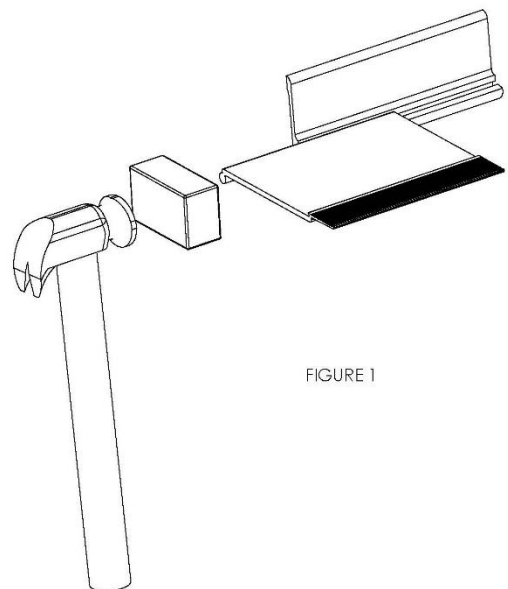

FIGURE 1
1. Cut and fit expansion joints to required length, if installing more than one piece lay out entire run to insure proper alignment. The cover plates will need to be assembled. This is done by applying a lubricant to the half round protuberance on the male cover plate and sliding it into the round channel on the female cover plate. The cover plates may need to be forced together by pounding the plate from the end using a rubber mallet and a block of wood. **Figure 1**
1. Cut and fit expansion joints to required length, if installing more than one piece, lay out entire run to insure proper alignment. The floor plate will need to be assembled with the wall plate. This is done by applying a lubricant to the half round protuberance on the floor plate and sliding it into the round channel on the wall plate. The plates may need to be forced together by pounding the plate from the end using a rubber mallet and a block of wood. **See Figure 1**